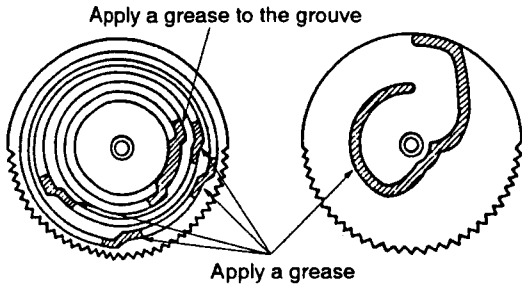

Fig. 10
- ① Grease the cam gear. (Fig. 10)